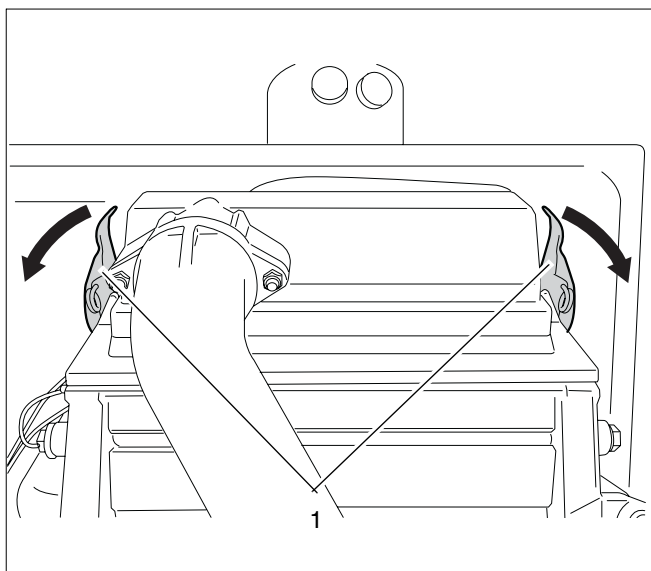

Fig. 84 Loosening the retaining clips
- Pull both retaining clips (see fig. 84, pos. 1) on the burner cover to open them and remove the burner cover with the fan unit and the gas control valve.